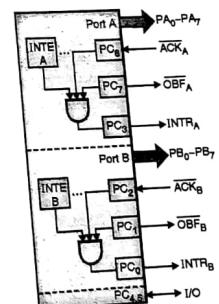

Fig. 9.11.8 : PA, PB and PC in mode 1 output mode
- The different handshake signals used are  $\overline{OBF}$ ,  $\overline{ACK}$  and  $INTR$  the internal organisation of these signals is as shown in Fig. 9.11.8.